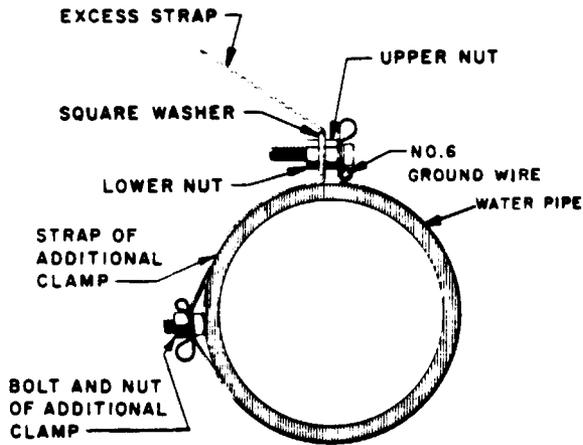

Figure 55—Attaching L Ground Clamps to Pipes Larger Than 3 Inches
(6) Mount the square washer and lower nut on the bolt of the initial clamp, and tighten the nut. (On pipes larger than 3 inches, fasten two straps together as shown in Figure 55)